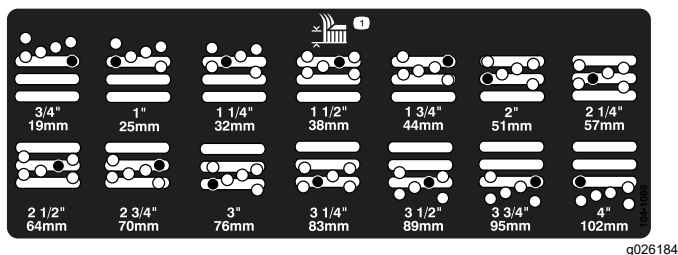

Figure 18
5. Move the chamber to the desired height-of-cut and install a spacer into the designated height-of-cut hole and slot (Figure 18).